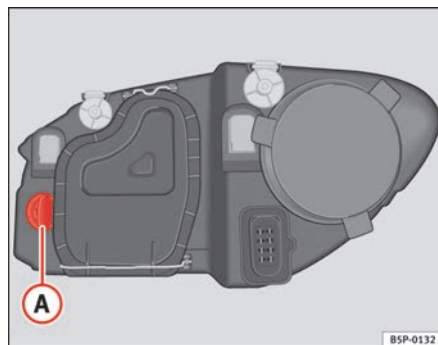

Fig. 186 Turn signal lamps
- Rotate the lamp holder ⇒ fig. 186 **A** to the left and pull.